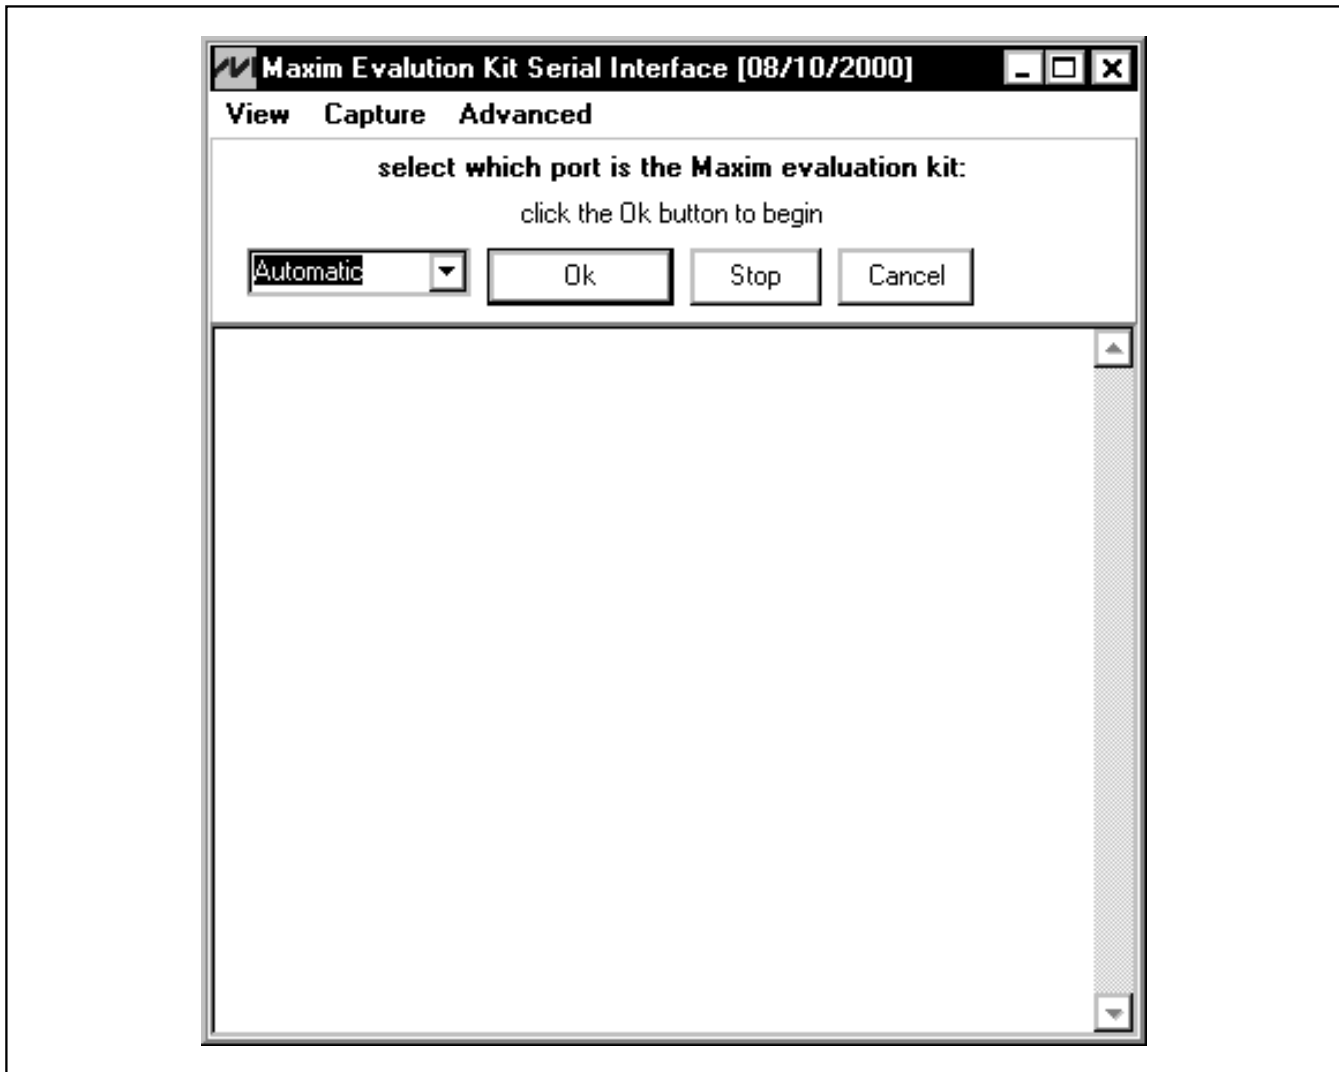

Figure 1. Maxim Evaluation Kit Serial Interface Form
- 5) Install a shunt on JU8 to connect the ground sense (GS) to the header, JU2.
- 12) Click **OK** after the Maxim Evaluation Kit Serial Interface form (shown in Figure 1) opens. The computer downloads code to the 68HC16 module to program the QSPI port.